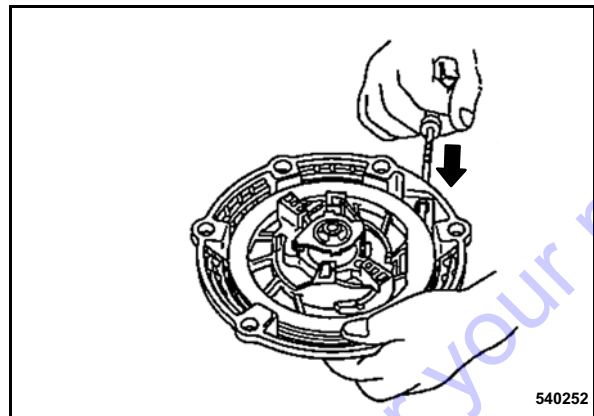

Fig. 71
- Remove the coil fixture and guide the starter handle slowly back to initial position (Fig. 71).